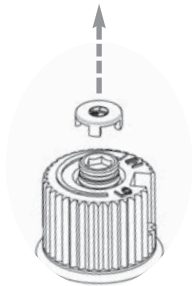

Fig. 1
- 16) Remove the black protection cap by hand from the high-low knob (Fig.1).